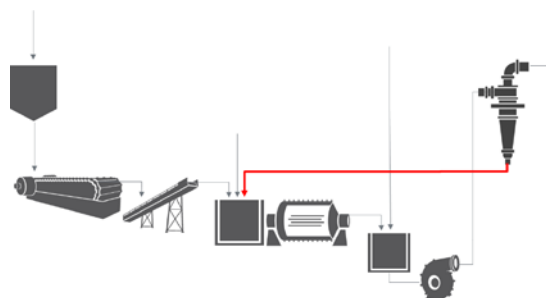

Figure 9: Single stage rod grinding and single classification circuit with circulating load shown in red.
**2. Closed circuit:** Material of the required size is removed by wet classification and the oversize returned to the mill feed for further processing, typical circuit shown in Figure 9. No effort is made to achieve the required size reduction in a single pass, instead, material is removed from the circuit as soon it reaches the required size.